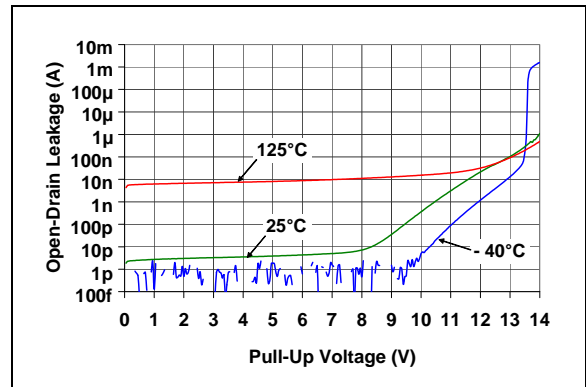

FIGURE 2-28: Open-Drain Leakage Current vs. Voltage Applied to V_{OUT} Pin (MCP111-195).
- Note 3:** This specification allows this device to be used in PIC[®] microcontroller applications that require the In-Circuit Serial Programming™ (ICSP™) feature (see device-specific programming specifications for voltage requirements). This specification DOES NOT allow a continuous high voltage to be present on the open-drain output pin (V_{OUT}). The total time that the V_{OUT} pin can be above the maximum device operational voltage (5.5V) is 100 sec. Current into the V_{OUT} pin should be limited to 2 mA. It is recommended that the device operational temperature be maintained between 0°C to 70°C ($+25^\circ\text{C}$ preferred). For additional information, please refer to Figure 2-28.